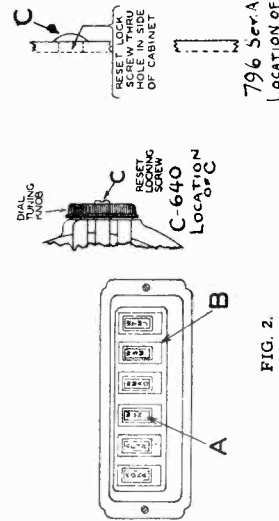

FIG. 2.
There are six pushbuttons on the Remote Tuner Unit by means of which six stations may be set up for automatic tuning (see B, Fig. 2).
On the top of each pushbutton a slot is provided for inserting the call letter tabs, (see A, Fig. 2).
1. Make a list of six stations you tune in regularly. There are six push buttons on the front of the radio by means of which six stations may be tuned automatically. (See "B," Fig. 2.)
3. On the front of each automatic tuner button an opening is provided for inserting the call letter tabs, (See "A," Fig. 2). Insert the call letter tabs in the rectangular openings in each of the automatic tuner push buttons.
7. Now rotate the tuning knob to the right (clockwise) as far as it will turn, and with a coin (quarter), tighten the special locking screw ("C") in the center of the tuning knob, (See Fig. 2).